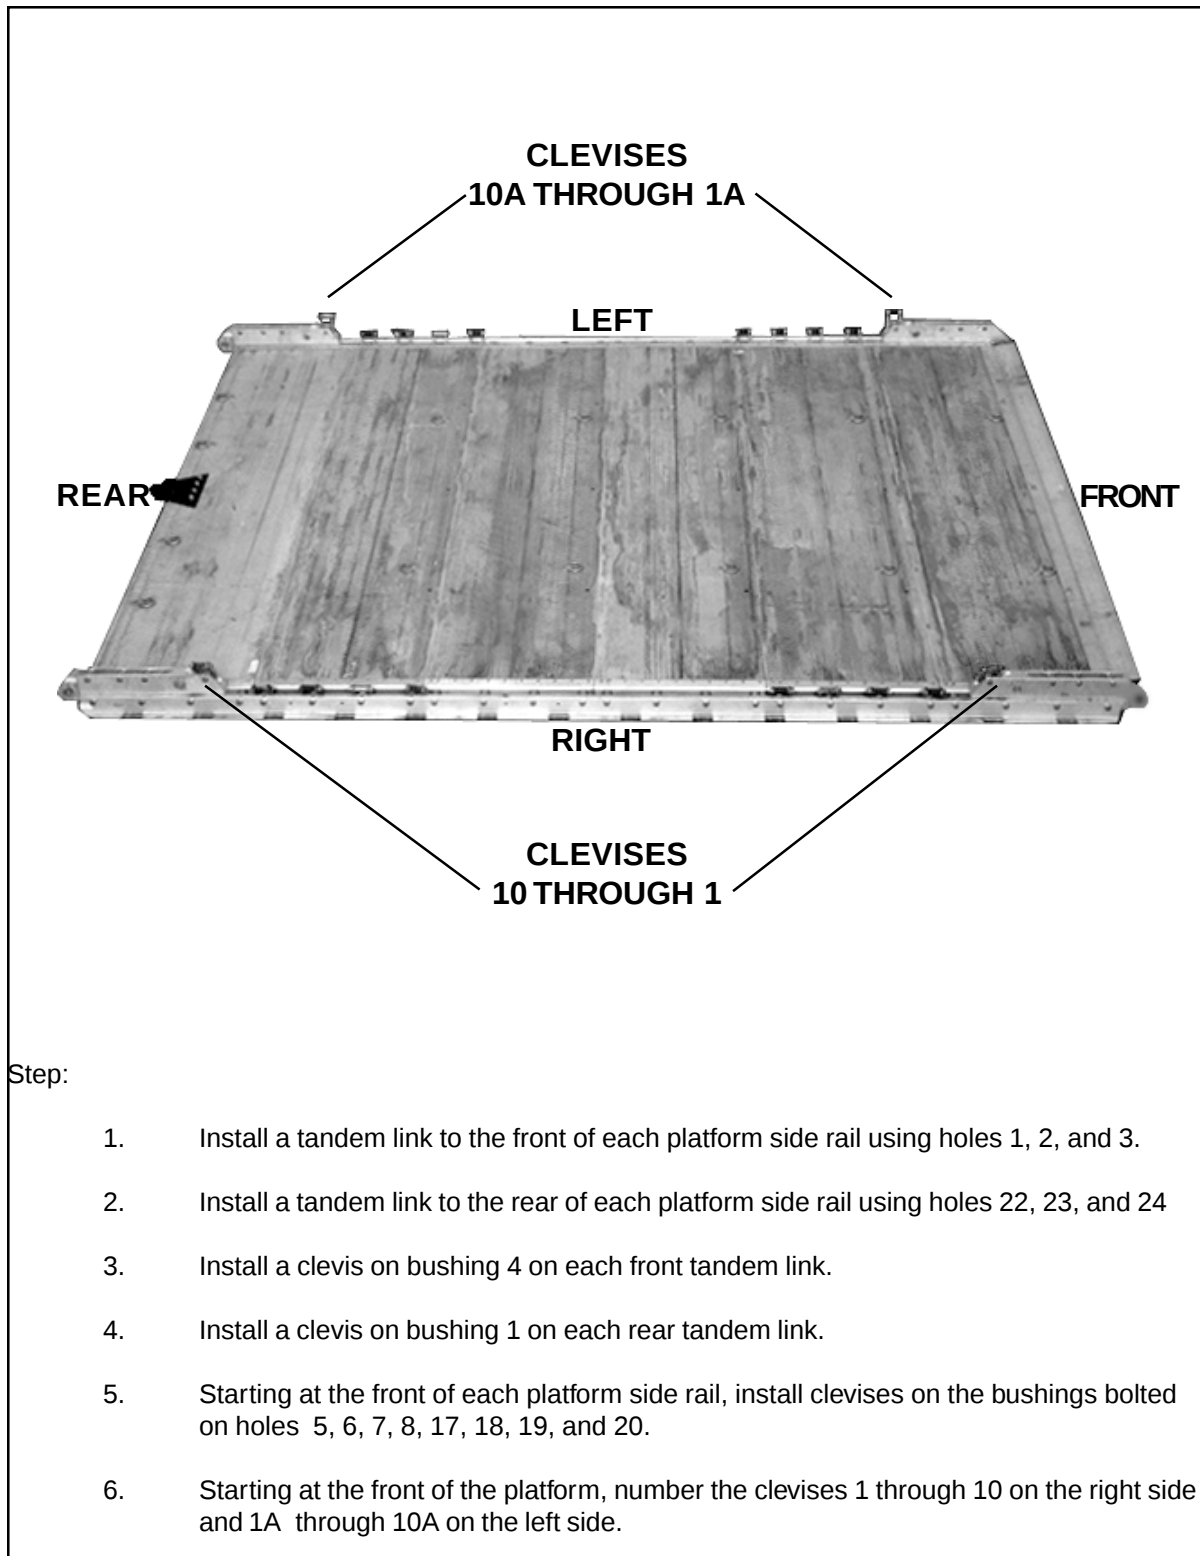

Figure 4-1. Platform Prepared
- b. Installing Tandem Links. Install tandem links as shown in Figure 4-1.
- c. Attaching and Numbering Clevises. Attach and number 20 clevis assemblies as shown in Figure 4-1.